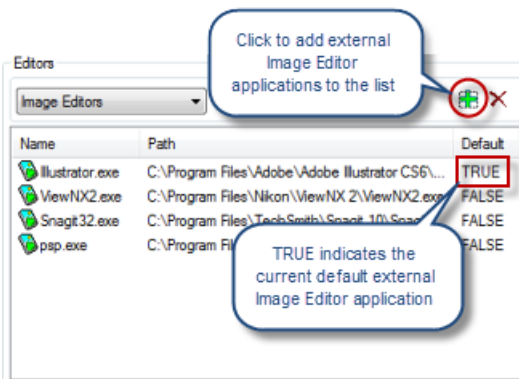

FIG. 431 Preferences Dialog (Editor Selection tab) - Image Editors list
4. Click **OK** in the *Choose Editor* dialog to add the selected program to the *Editors* list (FIG. 431):